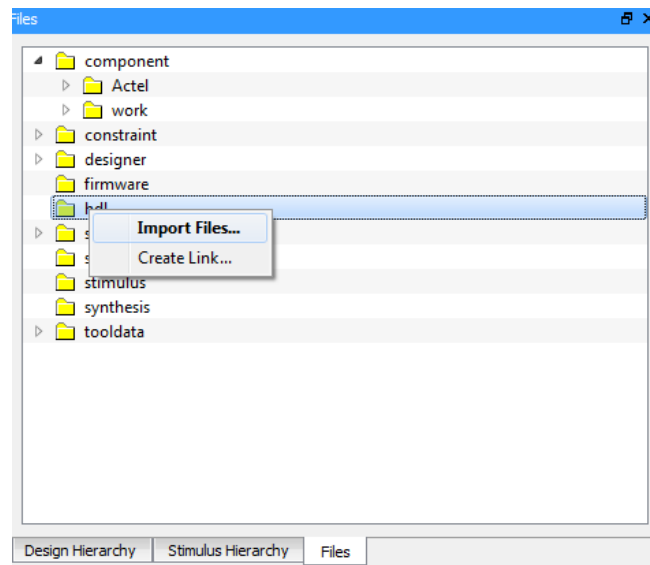

Figure 14 Importing HDL Source Files in the Libero SoC
19. Go to the **Files** tab, right-click on the **hdl** and select **Import Files** to open the Import files dialog box, or **File>Import > HDL Source Files**, as shown in Figure 14.